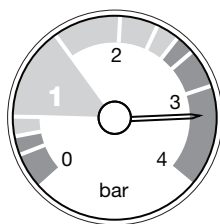

Fig. 3
3. A pressure of 3 or greater indicates a fault. The safety pressure relief valve will operate, at a pressure of 3 (Fig. 3). **It is important that your Installer or Service Engineer is contacted as soon as possible.**